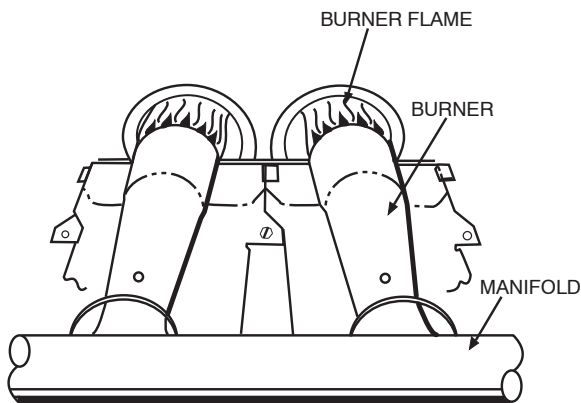

Fig. 10 - Monoport Burner
1. Inspection of all flue product passages—including the burners, heat exchanger, and flue collector box, Make sure the burner flames are blue in color and in proper adjustment. Refer to Fig. 10 for burner flame.